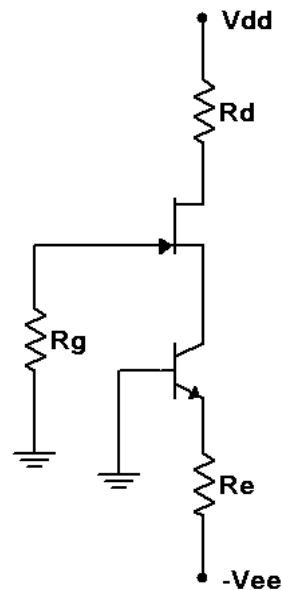

Figure 4
9. Consider the circuit of Figure 4 using $V_{DD} = 15$ volts, $V_{EE} = -5$ volts, $R_d = R_e = 4.7\ \text{k}\Omega$ and $R_g = 330\ \text{k}\Omega$. Calculate and record the expected voltages for JFET 1 in Table 6. Also record the expected drain current in Table 7.
10. Build the circuit of Figure 4 using $V_{DD} = 15$ volts, $V_{EE} = -5$ volts, $R_d = R_e = 4.7\ \text{k}\Omega$ and $R_g = 330\ \text{k}\Omega$. Measure and record the voltages for JFET 1 in Table 6. Based on V_D , compute and record the experimental drain current in Table 7. Also find and record the drain current deviation.
4. In general, identify two ways of increasing the drain current in the circuit of Figure 4.